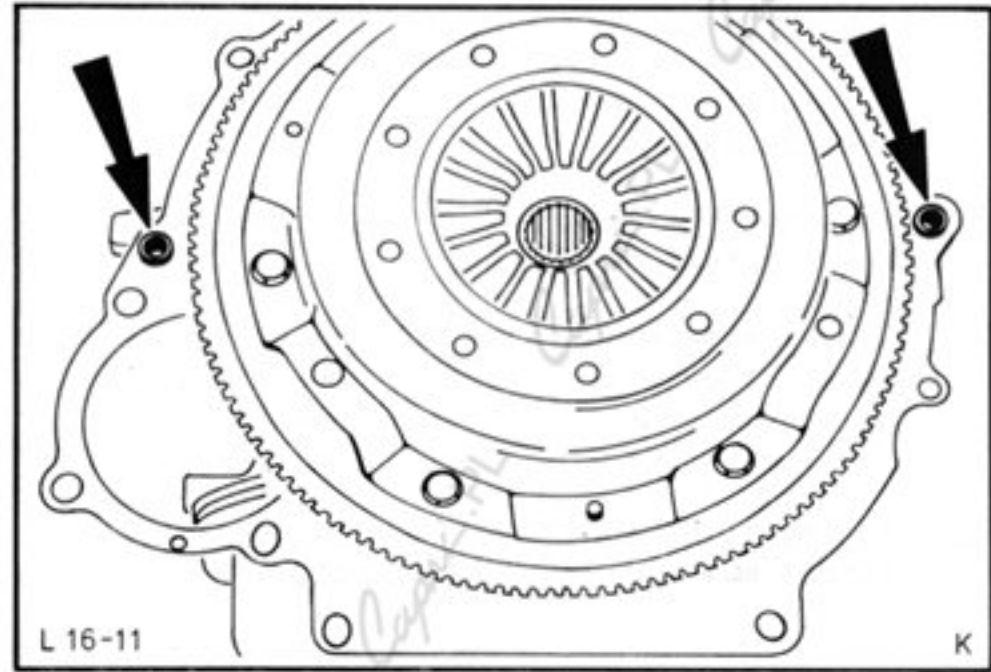

Fig.16. Dowel bushes - clutch housing.
21. If necessary, transfer dowel bushes from the clutch housing to the engine block and fit adapter plate, Fig.16.